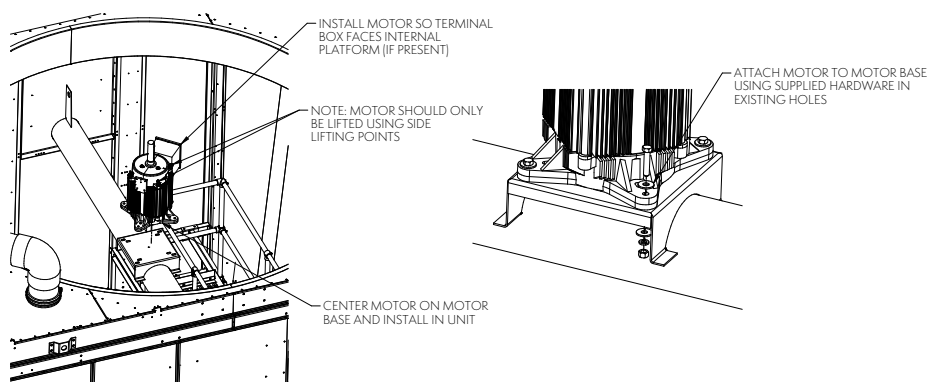

Figure 12 – Direct Drive Motor Installation
5. Secure the motor to the cooling tower structure with flange mounting bolt as shown in **Figure 12**.